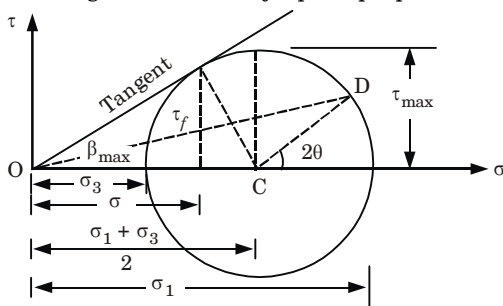

Fig. 1. Mohr's circle.
1. The maximum shear stress τ_{\max} is numerically equal to $(\sigma_1 - \sigma_3)/2$ and it occurs on a plane inclined at 45° to the principal planes as shown in Fig. 1.